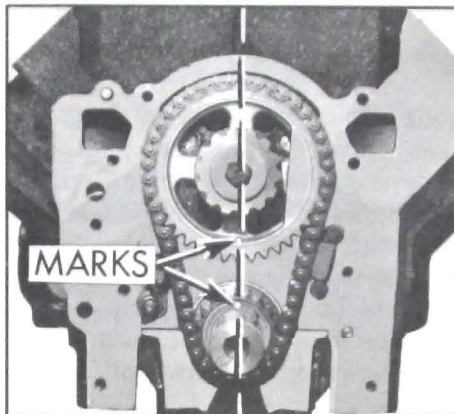

Figure 2-47—Timing Chain and Sprockets Properly Installed - V-6 Shown
1. With timing chain cover removed (subpar. a above) temporarily install harmonic balancer bolt and washer in end of crankshaft. Turn crankshaft so sprockets are positioned as shown in Figure 2-47. Doing so will make it easier to reinstall parts. Remove harmonic balancer bolt and washer using a sharp rap on the wrench handle to start the bolt out without changing position of sprockets.
2. Turn camshaft so with sprocket temporarily installed, timing mark is straight down. See Figure 2-47. Remove sprocket.
sprockets and slide the sprocket and chain assembly on the shafts with the timing marks in their closest together position and in line with the sprocket hubs. See Figure 2-47.